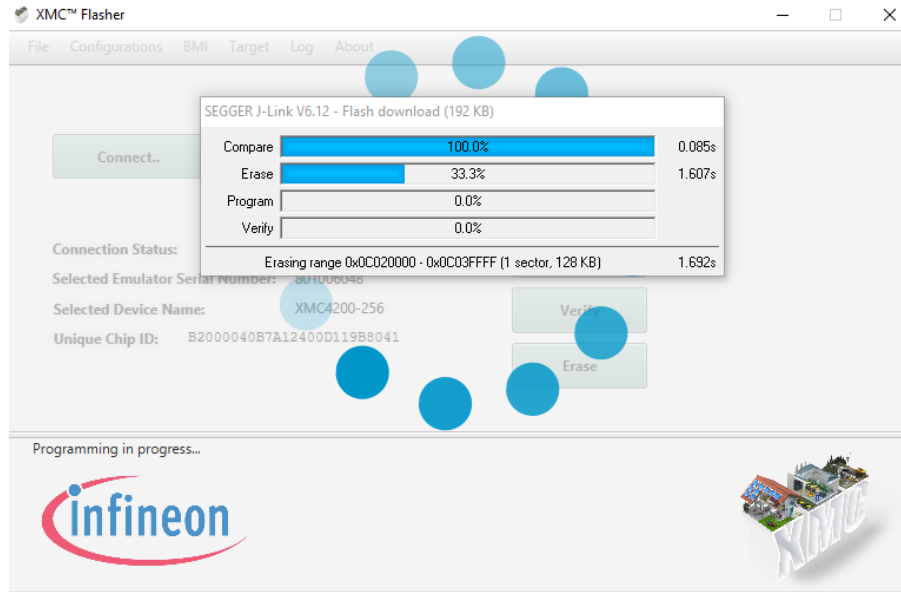

Figure 12. Sensor Flashing in Process
Step 9. Press Program to start the flashing process. A pop-up of rolling balls along with a status box will appear while the flashing in process (Figure 12). Typically, it only takes a few seconds to complete the